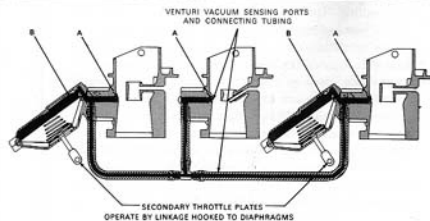

Fig. 3—VACUUM CONNECTIONS TO SECONDARY CARBURETORS
Most enthusiasts know the result of over-carburetion—poor engine response, slower acceleration and poorer elapsed times. Holley and Chevrolet engineers point out that trying to supplant the vacuum system with mechanical linkage will probably lead to the problem of over-carburetion. Figure 3 shows the vacuum passages (A) and connections to all three carburetors for sensing venturi vacuum. Throttle plates in both outboard carburetors are controlled by the throttle control diaphragms (B).